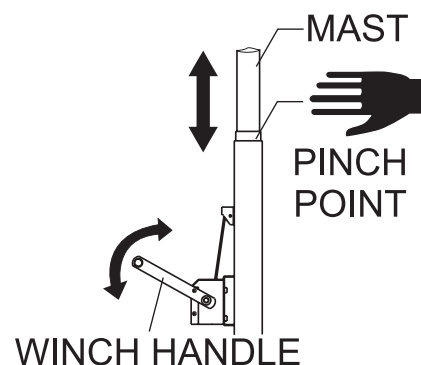

Figure 13. Mechanical Winch Handle
7. Using the mechanical winch (Figure 13), **raise** the mast to the desired height. Turn winch handle clockwise to raise mast.